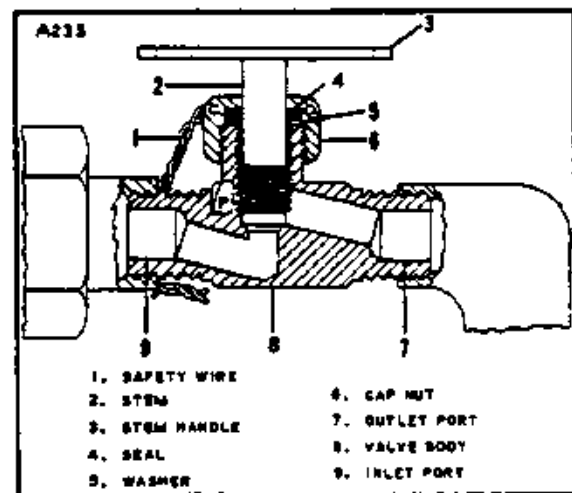

Figure 13-29. Heater Fuel Valve
**13-122. INSPECTION AND REPAIR OF HEATER FUEL VALVE.** (Refer to Figure 13-29.)
b. The stem assembly (2) may be removed by unscrewing the cap nut (6) with stem handle (3).
d. If any part of the stem assembly (2) is damaged or if the cap nut (6) is not drilled for safetying purposes, replace the assembly.
e. Reassemble the unit and tighten the cap nut (6) tight enough to prevent leakage but not to hamper turning the stem handle (3).